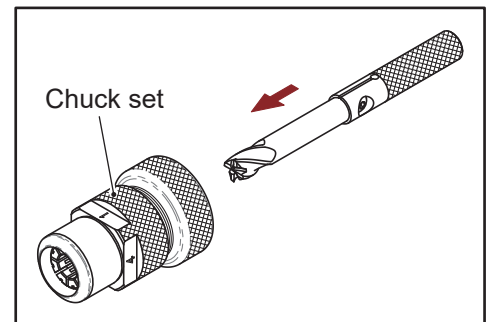

Fig. 7-5
- ✘ When assembling with the chuck set, put it in from the rear of the chuck set. (Fig. 7-5)